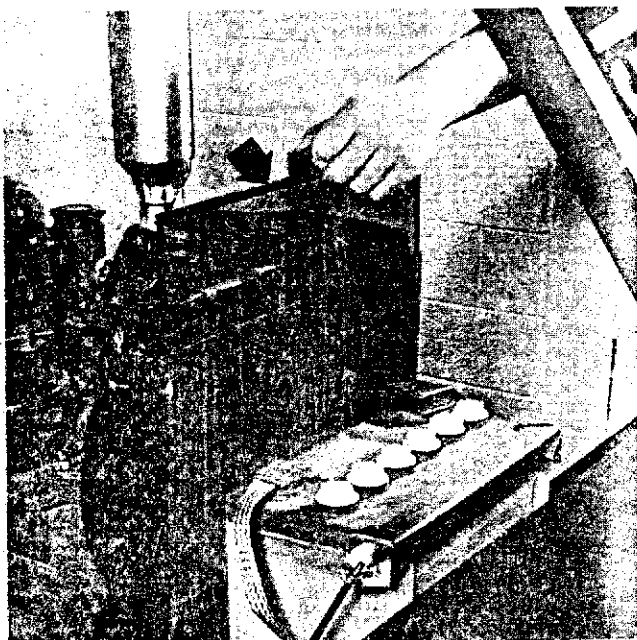

Figure 39 — Radiator Screen
5. Clean the radiator front screen Figure 39.